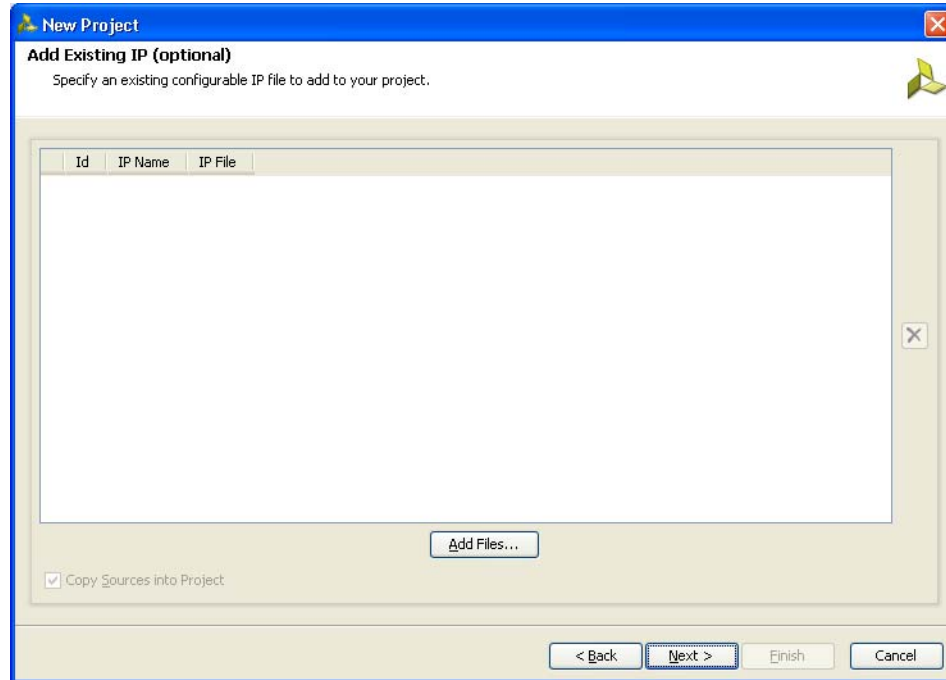

Figure 3-6: Add Existing IP (Optional)
- Click **Next** to open the **Add Existing IP (Optional)** page (Figure 3-6). If the IP is already created, the XCI file generated by the IP can be added to the project and the previous created IP files are automatically added to the project. If the IP was not created earlier, proceed to the next page.